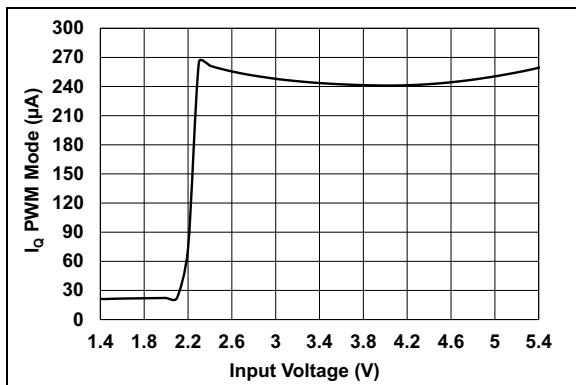

FIGURE 2-8: No Load Input Current, I_{IN0} vs. V_{IN} ($EN = V_{IN}$).
- 2:** I_{IN0} varies with input and output voltage (Figure 2-8). I_{IN0} is measured on the V_{IN} pin when the device is switching ($EN = V_{IN}$), at no load, with $R_{TOP} = 120\text{ k}\Omega$ and $R_{BOT} = 1.05\text{ M}\Omega$.